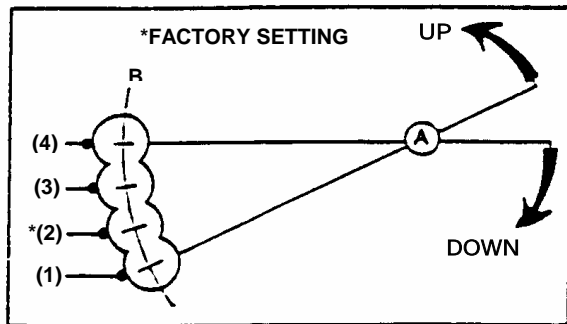

FIGURE 5.3
3. Raise or lower handlebar to desired height. See Figure 5.3.